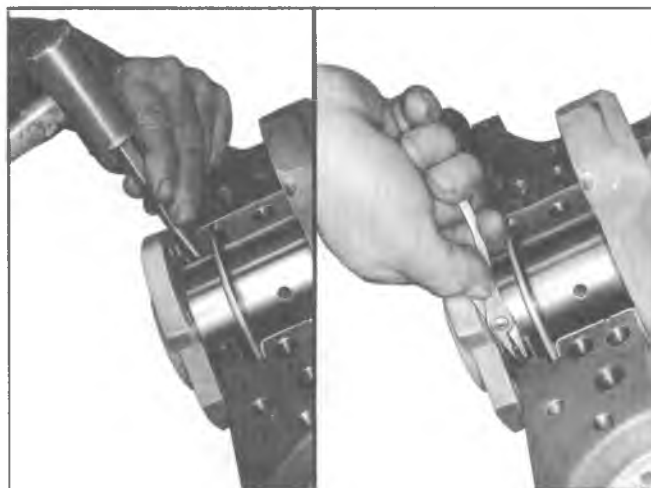

Fig. 7L—Removing Oil Seal (Upper Half) Typical
3. To remove the upper half of the seal, use a small hammer to tap a brass pin punch on one end of seal until it protrudes far enough to be removed with pliers (fig. 7L).